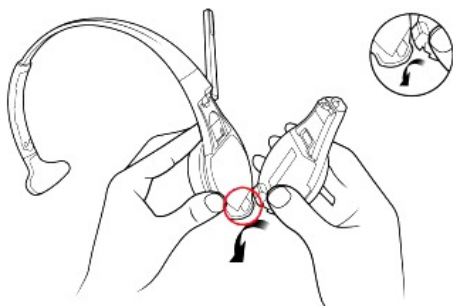

Figure 8.
2. Align Charging Contact Block on Control Pod into the Charging Contact Block Receptacle of the Headset Carrier. Once the Charging Contact Block is set into in the Receptacle, it will act as hinge or pivot point. See *Figure 8*.